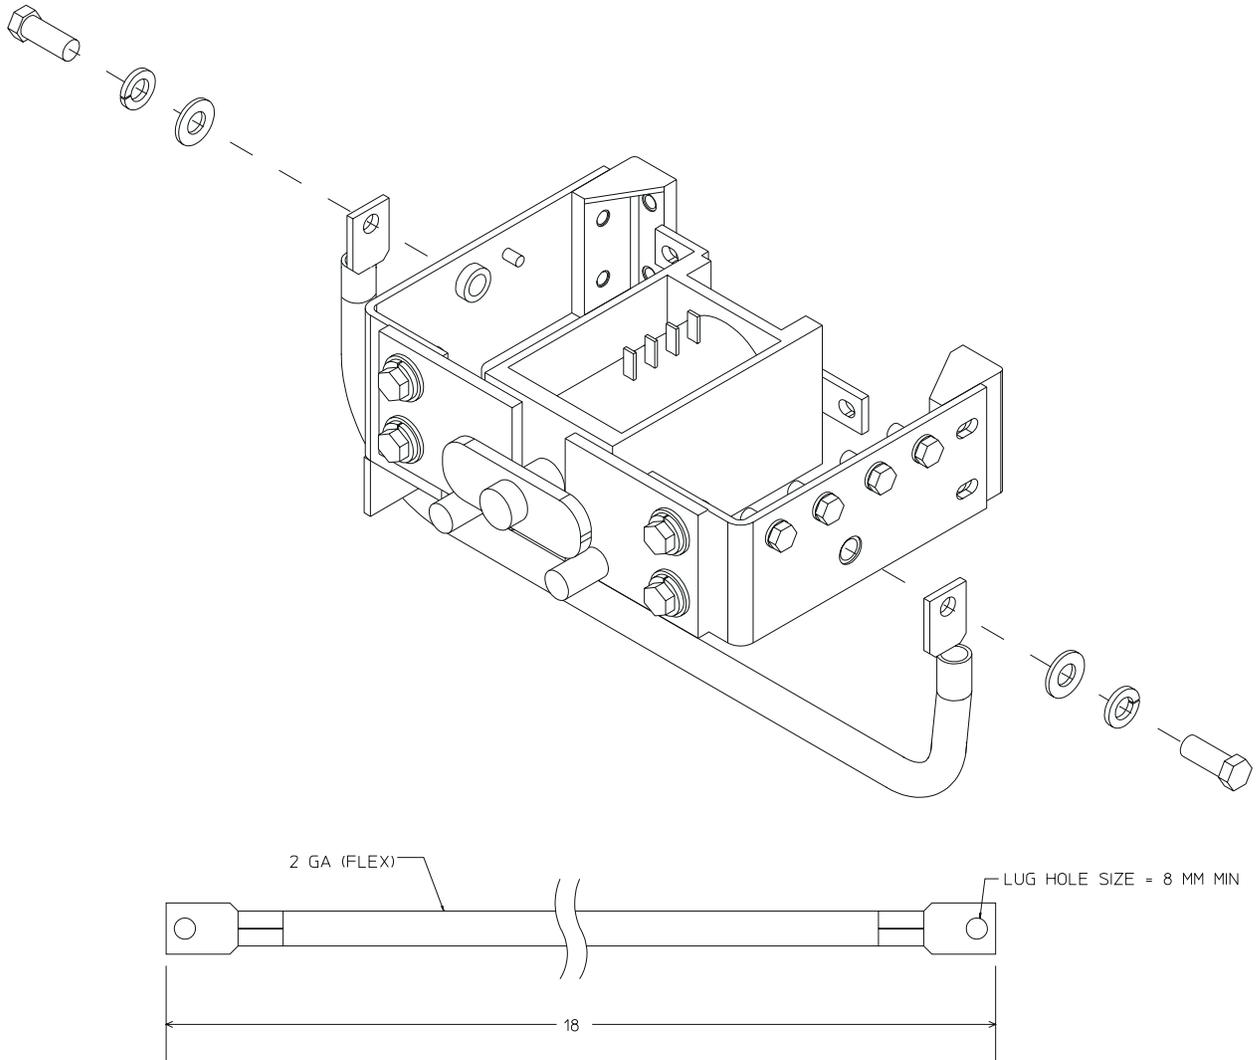

Figure 7-1: Replacing a contactor
1. A cable assembly as shown in Figure 7-1 is recommended for this procedure. Remove the two fastening bolts from the busbars and place cable assembly across contactor as shown. Note orientation of lugs and cable.